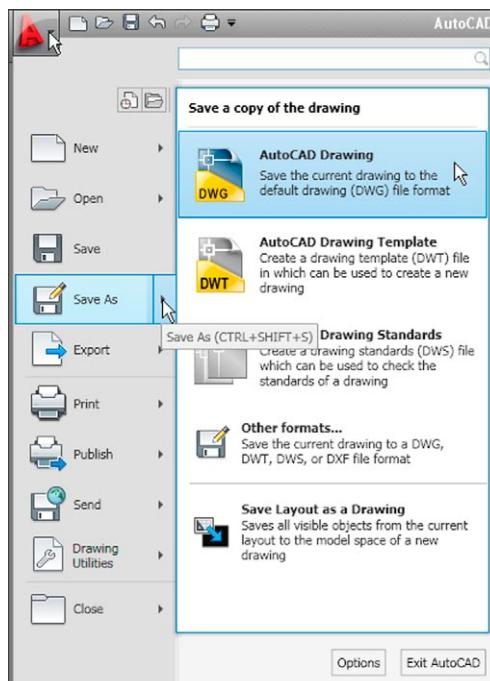

Fig. 4.20 Calling Save As
1. *Left-click on Save As in the menu appearing with a left-click on the AutoCAD icon at the top left-hand corner of the screen (Fig. 4.20).*